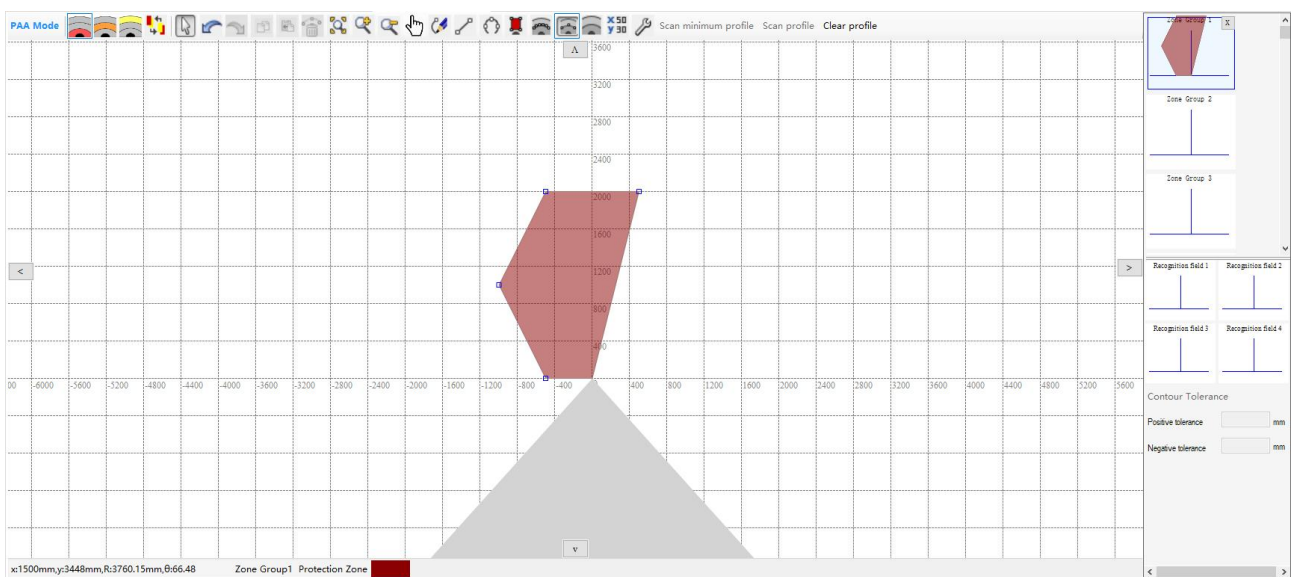

Fig.2.6.5.18 Drawing area after deleting a point
(4) Cancel modifying the boundary points of the rectangular area shown in Fig.2.6.5.7. Click , select (500, 0) in the left list view, then modify XY coordinate to (500, 500) in the right of this interface, and click “Save”, as shown in Fig.2.6.5.11. If you click , the previous operation will be cancelled, and the result is shown in Fig.2.6.5.10. Now, if